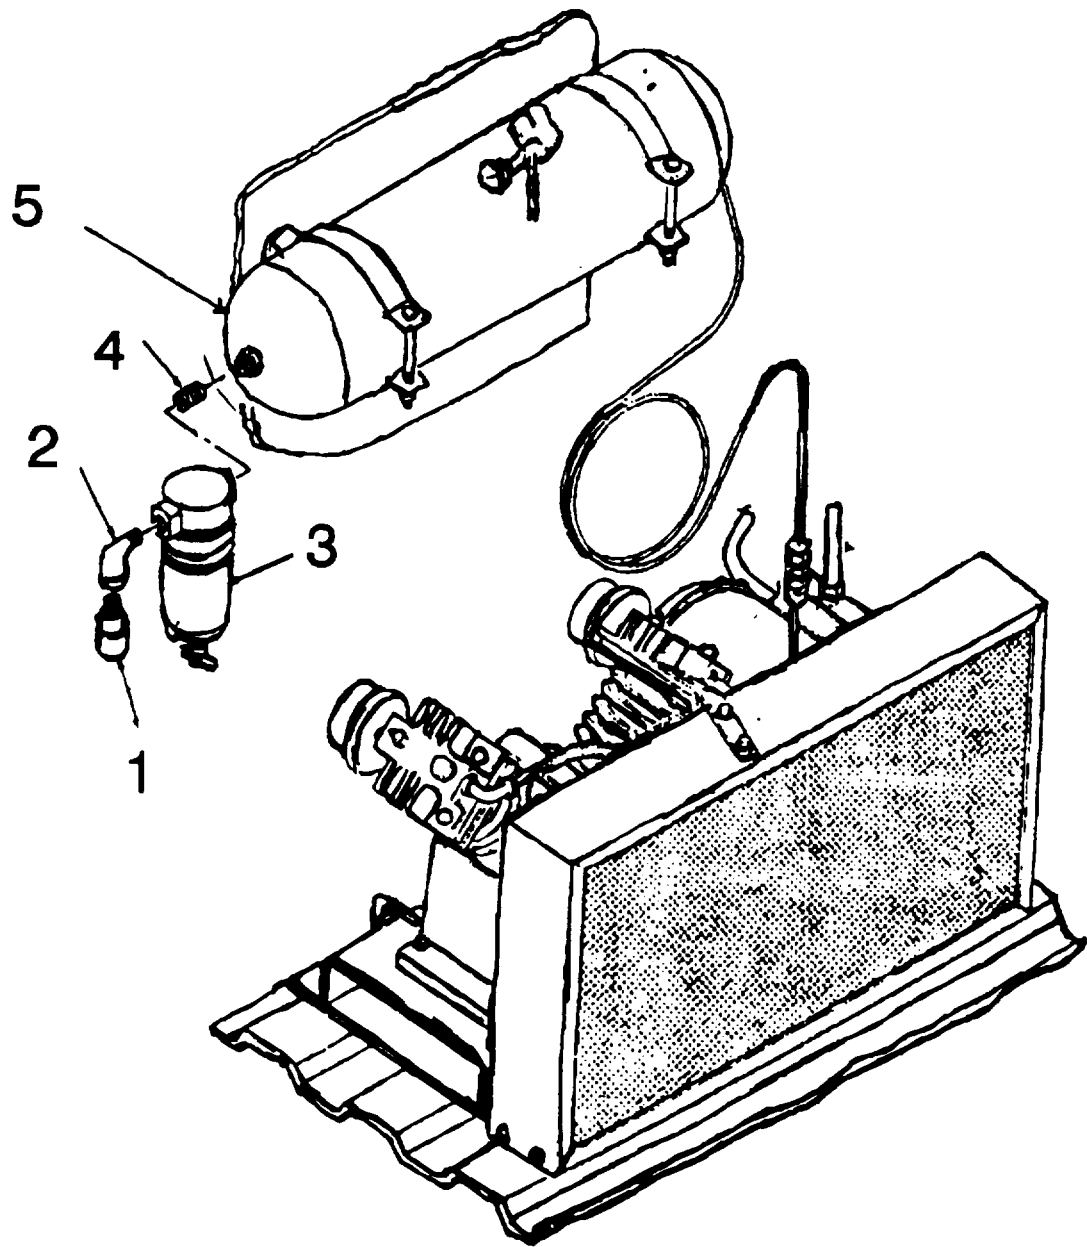
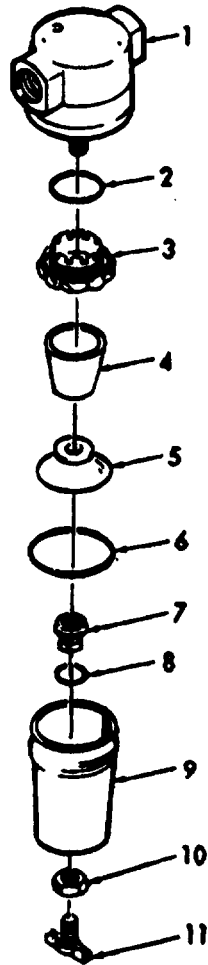

Figure 4-17. Air Filter Removal/Installation.
Figure 4-18. Air Filter Disassembly/Assembly.
- a. **Removal.** (Refer to figure 4-17.)
- (1) Unscrew and remove half coupling (1) and street elbow (2) from air filter (3).
- (2) Unscrew and remove air filter (3) and pipe nipple (4) from reservoir (5).
- b. **Disassembly.** (Refer to figure 4-18.)
- (1) Unscrew and remove filter bowl (1) and preformed packing (2) from filter body (3).
- (1) Inspect and replace preformed packings/gaskets that have nicks, cuts, abrasions, or deformations.
- (2) Replace filter element when the filter element cannot be cleaned.
- (3) Repair of all metal parts is by replacement of authorized parts (TM 9-4940-562-23P) which are determined to be defective.
**e. Assembly.** (Refer to figure 4-18.)
- (1) Prior to assembly of the air filter, generously coat preformed packing (11) and preformed packing (2) with grease (item 5, appx D).
- (2) Install preformed packing (11) on filter body (3) and secure with lower air filter (10). Screw lower air filter (10) onto filter body center post until contact is made with the filter body, then tighten 1/4 turn.
- (3) Install filter element (9) on filter body (3) and secure with air filter baffle (8). Screw air filter baffle (8) onto filter body center post until initial contact is made with the filter element (9). Tighten baffle 1/4 to 1/2 turn.
- (4) Run hexagon nut (4) down drain cock (7). install drain cock (7) through filter bowl (1) and secure with gasket (6) and insert (5). Tighten hexagon nut (4) 20 to 25 inch-pounds torque.
- (5) Install preformed packing (2) and filter bowl (1) onto filter body (3). Turn filter bowl (1) into filter body (3) until it stops (approximately 5 turns of the filter bowl).
**f. Installation.** (Refer to figure 4-17.)
**Apply anti-seize tape (item 19, appx D) to all male threads before installation.**
- (1) Screw pipe nipple (4) and air filter on reservoir (5)
- (2) Screw street elbow (2) and half coupling (1) on air filter (3)